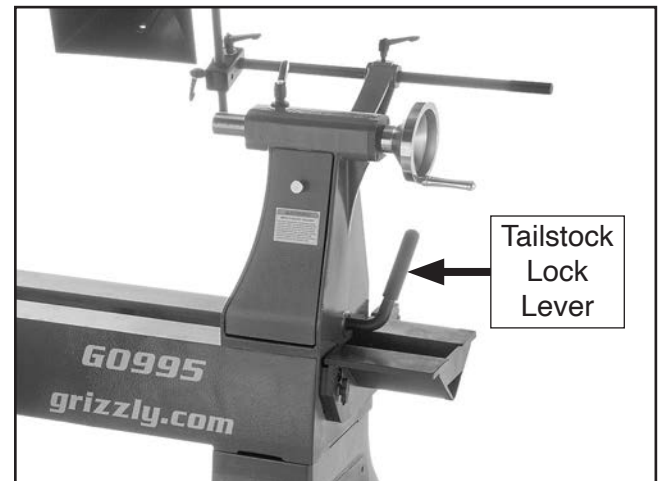

Figure 47. Location of tailstock lock lever.
1. Loosen tailstock lock lever and move tailstock to desired position (see **Figure 47**).